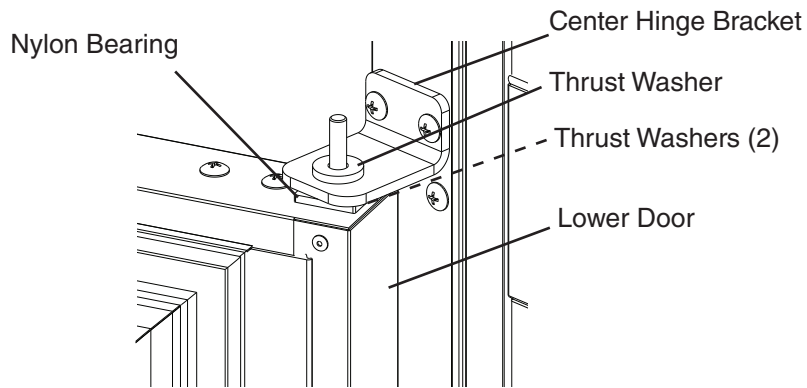

Fig. 23
- 13) Place the center hinge bracket lower pin with thrust washer into the nylon bearing on top of the door. Secure the center hinge bracket to the cabinet. See Fig. 23.